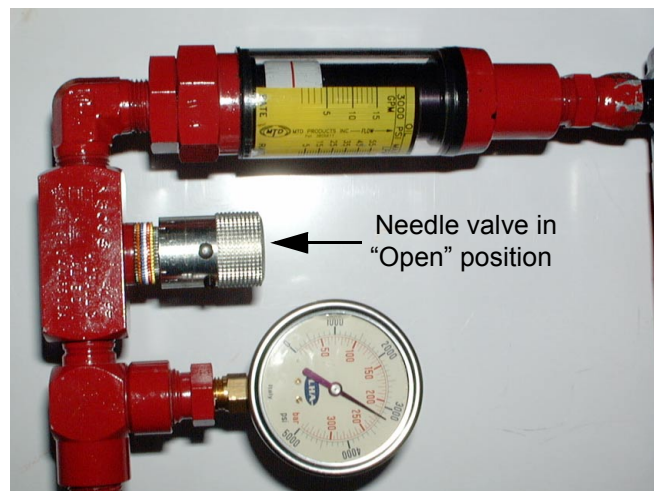

Figure 5
2. Rotate the needle valve counter-clockwise to the completely open position. \_\_\_\_ See Figure 5.